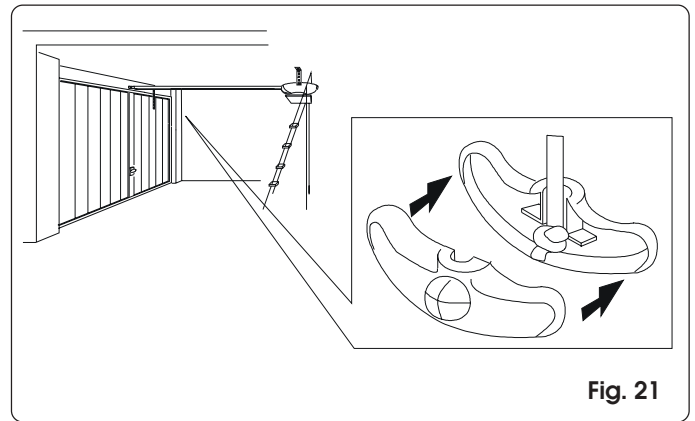

Fig. 21
- 2) Tie a knot in the end of the cord and assemble the release handle (fig. 21).